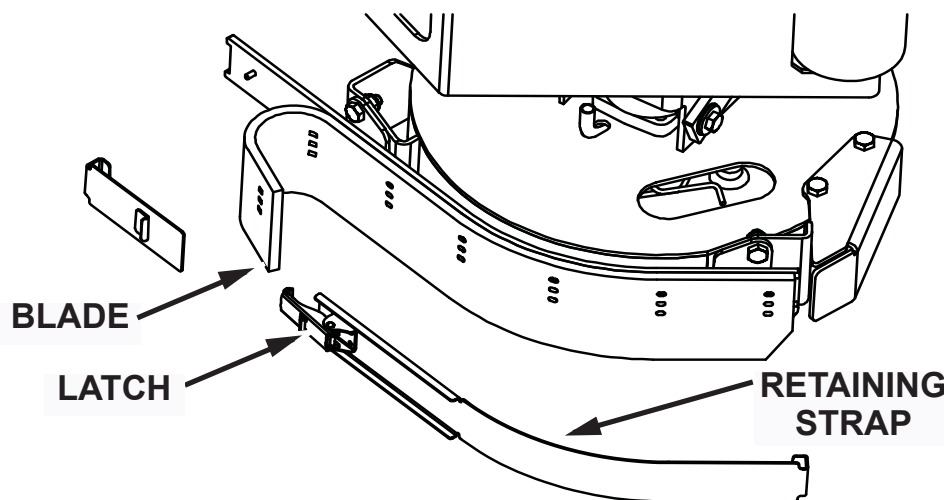

Fig. 3: Retaining Strap & Blade
1. Open the latch on the squeegee retaining strap and remove the retaining strap. (See Fig. 3)